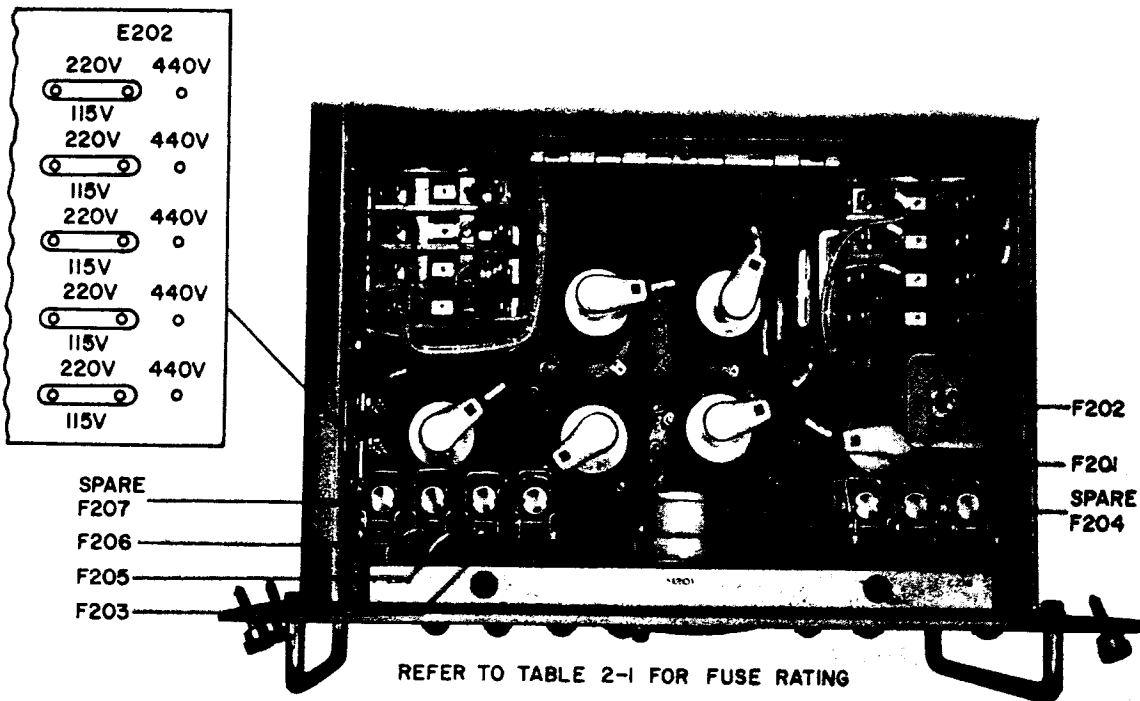

Figure 2-7. Power Supply PP-2222/WRT, Power Input Adjustments and Fuse Locations
Step 13. Refer to Table 2-1 and figure 2-7 and determine the fuse rating for fuses F201, F202, F203, F205 and F206, as dictated by the ship's supply voltage.
Step 15. Insert the seven fuses in the proper fuse clips located on the back of the front panel of Power Supply PP-2222/WRT as shown in figure 2-7.
The fuse warning indicating lamp circuit must also be set according to the ship's supply voltage. The adjustment for the indicating lamp circuit is located on board E202. E202 is mounted on the left side of Power Supply PP-2222/WRT near the front of the drawer as shown in figure 2-7.
Step 16. Refer to figure 2-7 and locate the link connections on board E202 according to the ship's supply.
Step 17. Refer to figure 2-7 and locate interconnection board E201 on top of Power Supply PP-2222/WRT toward the rear of the drawer.
Step 9. On top of the drawer locate CONTROL BUS switch S501. (See figure 2-7.)
Step 12. Check the settings of +350 V OL ADJ potentiometer R502 and that of -350 V OL ADJ potentiometer R504 as outlined in paragraph 6-2c(4) in section 6 of this manual.
Step 15. Refer to paragraph 6-2f(3) in section 6 of this manual and check the adjustment of PA OVLD potentiometer R840.
Step 16. Check the settings of SWR OVLD ADJ B potentiometer R895 and SWR OVLD ADJ A potentiometer R909 as outlined in paragraph 6-2f(6) in section 6 of this manual. During the checks in steps 14, 15, and 16 observe that HV OVERLOAD indicator DS208 and HV OVERLOAD PUSH TO RESET Indicator DS801 glow when any circuit is tripped. Also check to verify that HV OVERLOAD PUSH TO RESET switch S812, L. V. RECT OVLD RESET switch S505, and OVERLOAD RESET switch S203, reset the circuit and extinguish the overload indicators.